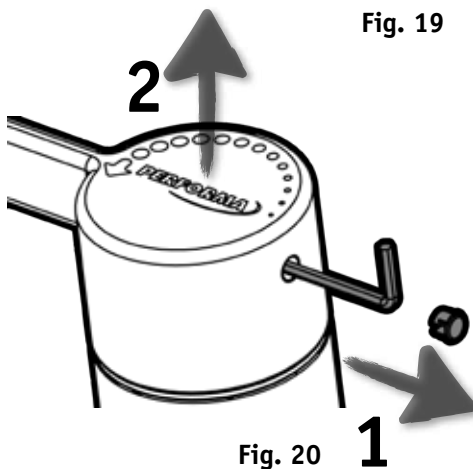

Fig. 20 **1**
4) Remove the **PLASTIC CAP 8** (*if applicable*) and loosen the **HANDLE SCREW 9** from the rear of the handle using 3mm **ALLEN KEY** and remove the **HANDLE 1** (**Fig. 20**)